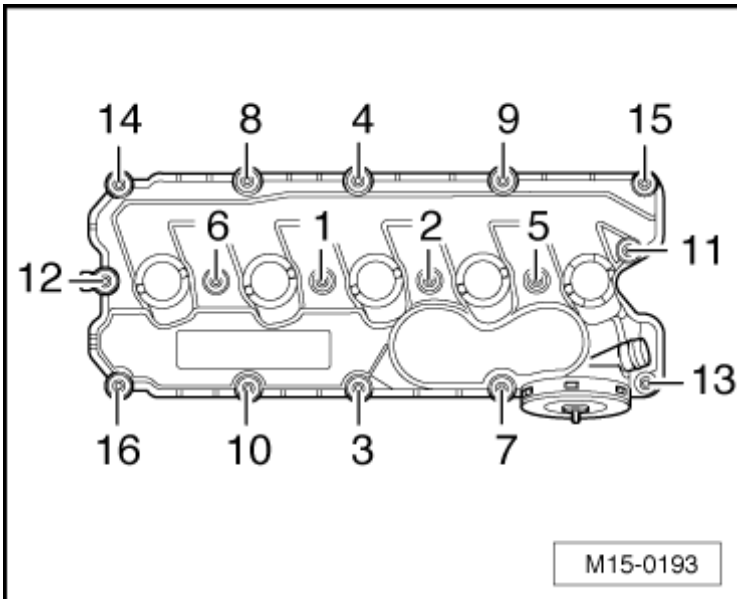

Fig. 11: Removing Bolts For Cylinder Head Cover In Sequence
- Tightening sequence, refer to **Fig. 11**.